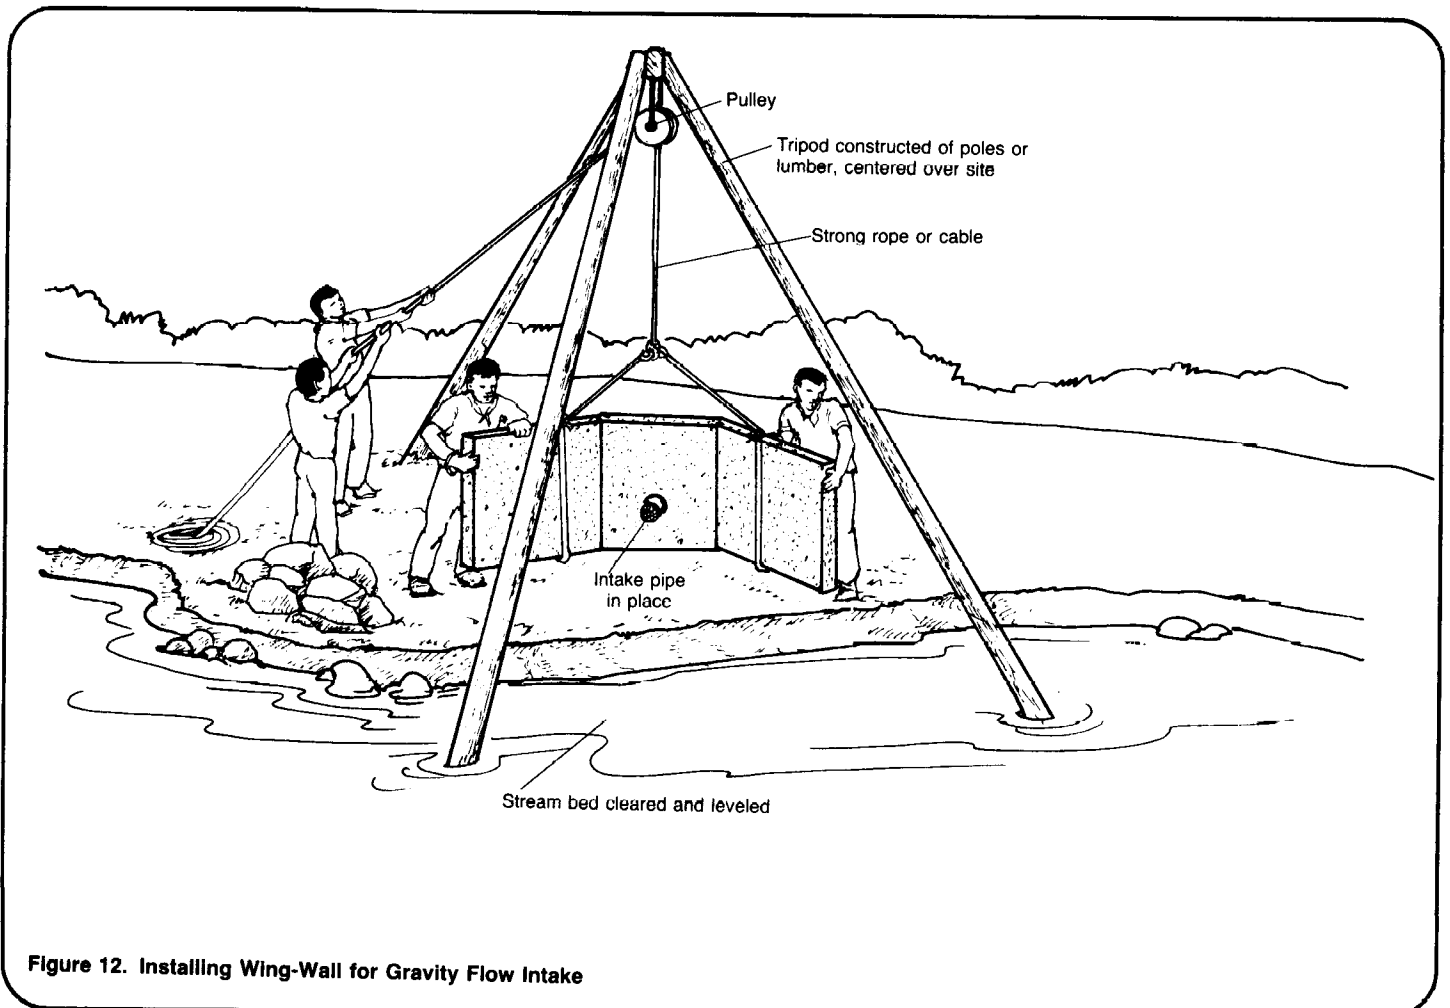

Figure 12. Installing Wing-Wall for Gravity Flow Intake
6. Tie the rope around the structure to secure it well and to let it swing freely in the air. Place two or three men at the rope to lift the structure and two others to guide it into place in the stream. See Figure 12.